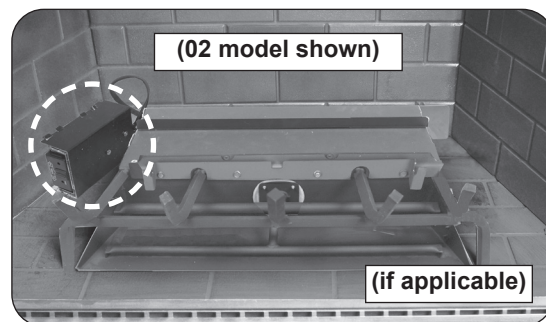
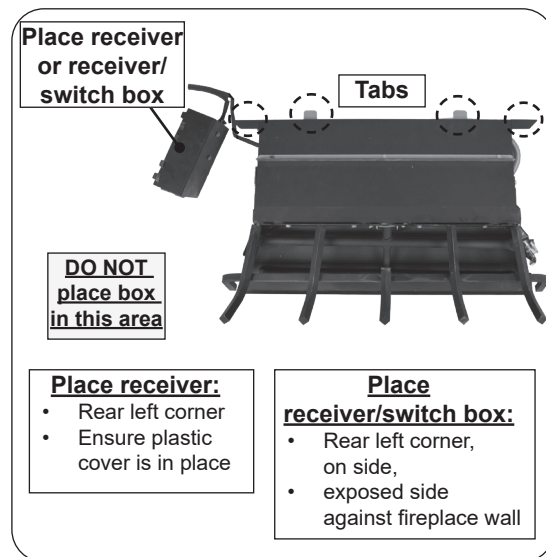

Fig. 15-2 Place receiver / switch box (in left rear of fireplace)
Fig. 15-3 Proper receiver/box placement
3. Place the burner system in the fireplace. Center the burner from left to right in the fireplace. (Reference Fig. 15-2 for orientation.)
Note: The tabs located on the burner are for spacing and air circulation. See Fig. 15-3.
Place the plastic cover over the receiver. Then place on its side, at the rear left corner of the fireplace. Place as far from the burner system as possible. See Fig. 15-2 & Fig. 15-3.
Place on its side, at the rear left corner of the fireplace. It should rest with its bottom as near as possible and facing the fireplace wall. It must not be placed directly next to the burner pan area to avoid damage to the batteries (and remote receiver - 02 models). See Fig. 15-2 & Fig. 15-3.